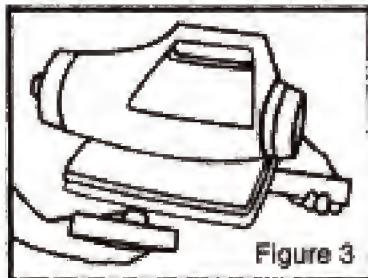

Figure 3
4. The pedestal base contains special receptacles for convenient tool and cord storage. (Fig. 3) For cord storage, set unit on end and wrap cord around pedestal. Secure cord by using clip on side of plug. (Fig. 4)